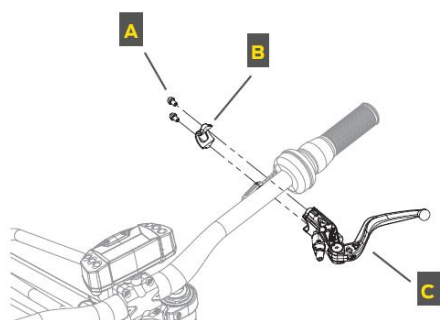

Fig 28
10.4 Separate main pump of brake from handlebar (see Fig 28)